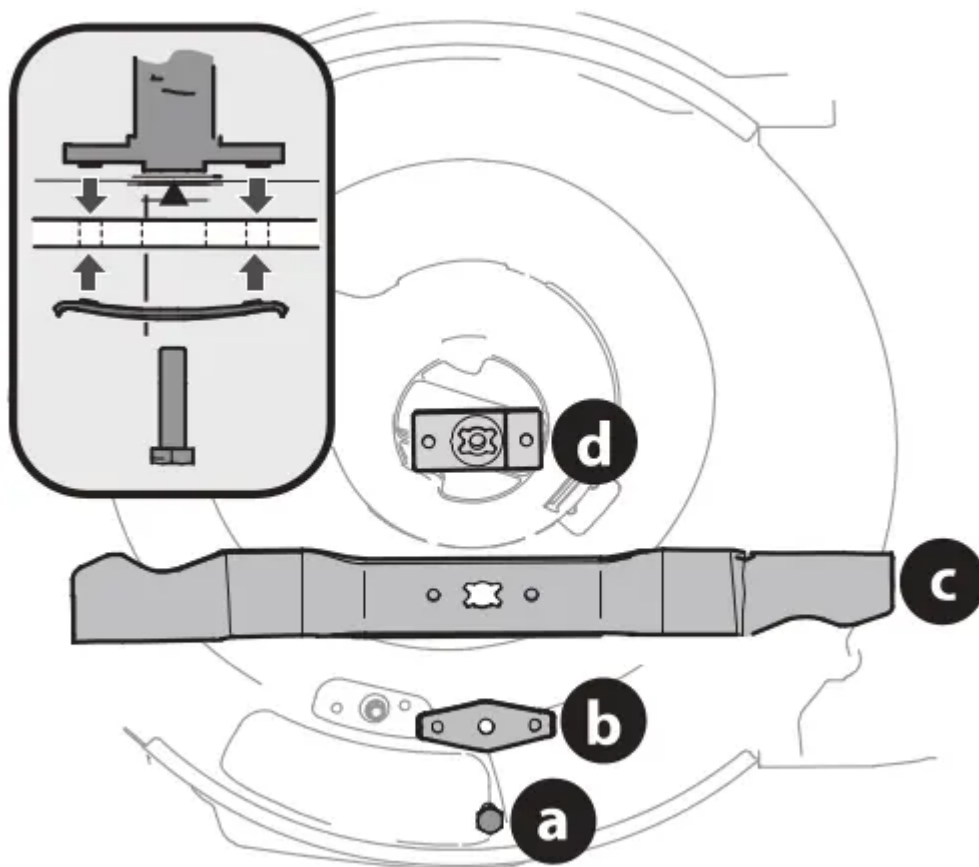

Figure 36
4. Remove bolt (a) and blade bell support (b) which hold the blade and the blade adapter to the engine crankshaft (Figure 36).
5. Remove blade (c) and blade adapter (d) from the crankshaft (Figure 36).
7. Lubricate the engine crankshaft and the inner surface of the blade adapter with light oil (Figure 36 inset). a. Slide the blade adapter (d) onto the engine crankshaft. b. Place the blade on the adapter such that the side of the blade marked "Grass Side" (or with part number) faces the ground when the mower is in the operating position. c. Make sure that the blade is aligned and seated on the blade adapter flanges.